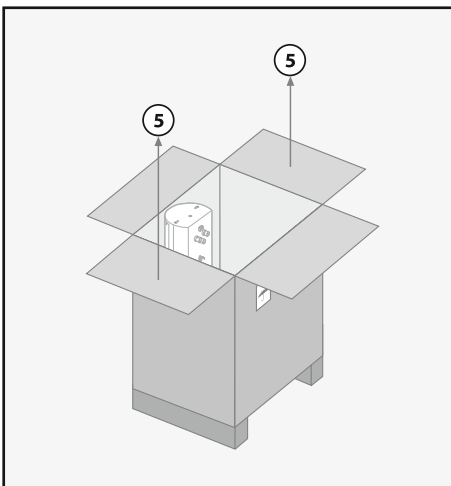

Figure 2.7: Lift the top carton.
5. Lift the top carton vertically off the pallet (see Figure 2.7).